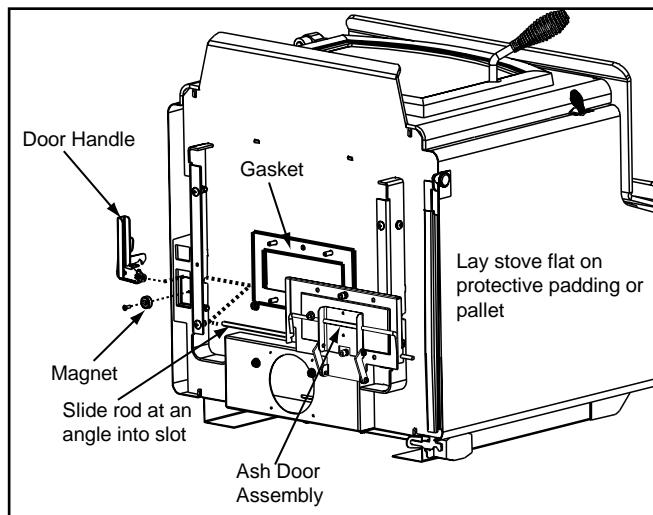

Figure 21.2
3. Remove the 2 nuts and 2 bolts holding the grate in place and set the grate aside. Discard the 2 nuts. Install the gasket over the 4 protruding screws. **Figure 21.2**.
4. Install ash door assembly by sliding the rod at an angle into the slot on the left side and sliding over the 4 screws protruding from the bottom of the stove. Secure with nuts provided. **Figure 21.2**.
5. Install magnet using a Phillips head screw driver. This magnet will hold the door handle in an open position which in turn holds the ash door open so ashes can be brushed into the ash drawer. **Figure 21.2**.